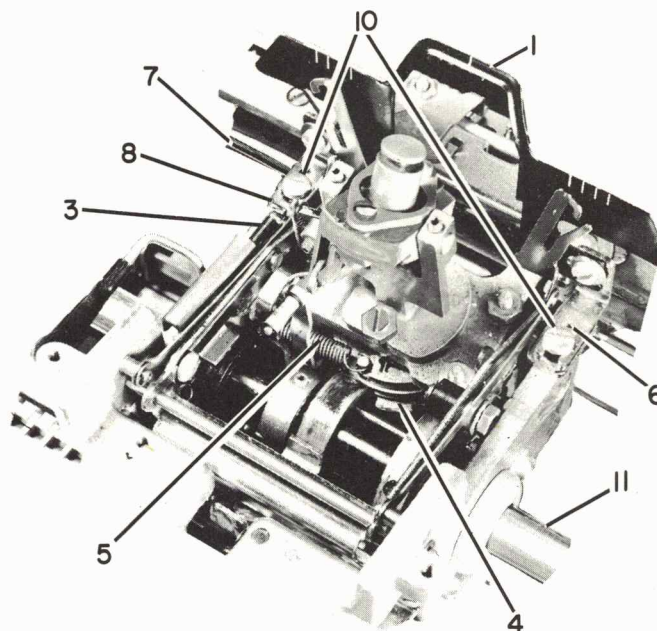

FIGURE 53. Carrier and Rocker Removal
- ✓2. Remove card holders (#1, Figure 53).
- ✓3. Disconnect ribbon lift spring (#3, Figure 53).
- ✓4. Release rotate spring tension (#4, Figure 53).
- ✓5. Remove tilt pulley spring (#5, Figure 53).
- ✓6. Remove tape anchor screw (#6, Figure 53).
7. Remove tapes (#7, Figure 53).
8. Remove tape wiper (#8, Figure 53) if present.
- ✓9. Remove escapement bracket mounting screws (#10, Figure 53).
12. Remove print shaft (#11, Figure 53).